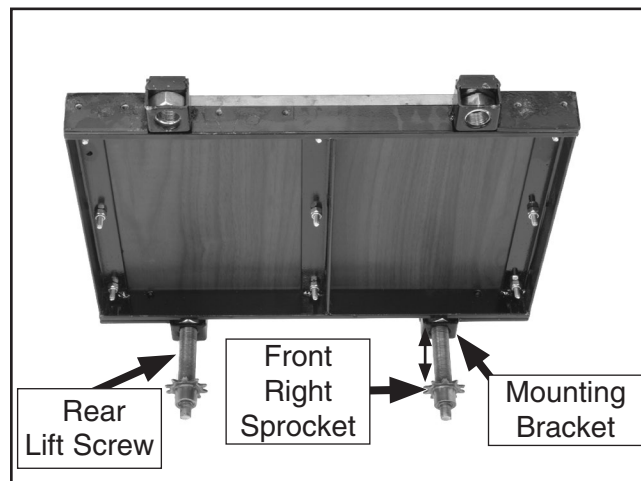

Figure 50. Conveyor belt removed from table.
26. Remove the belt. The table should look like **Figure 50**.